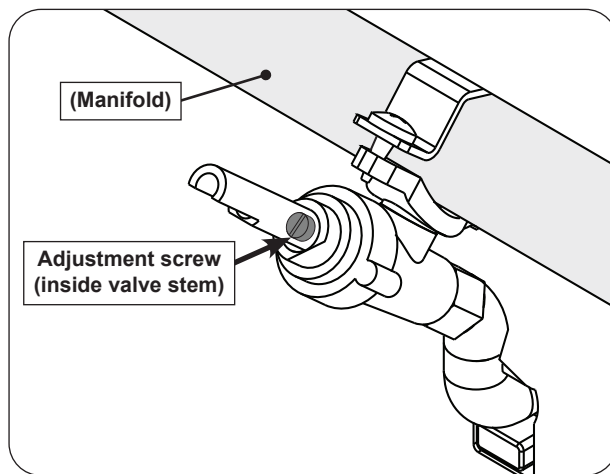

Fig. 58-1 Valve adjustment screw location
4. Locate the FLATHEAD adjustment screw found inside the valve stem (see Fig. 58-1).